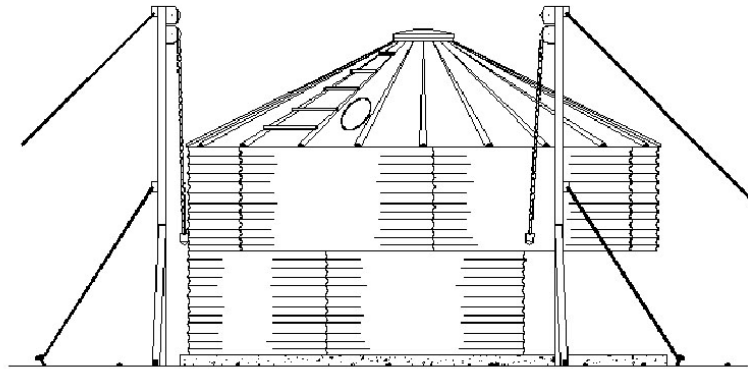

Figure 4
- 3- Attach the lifting jacks to the stiffeners (or to the holes lines of stiffeners in case they are not installed yet) and raise the silo high enough to let the assembly of the next body-sheets ring. (See figure 4)
The vertical joint of body-sheets must be staggered (as shown in the drawing) to allow all the stiffener holes to be aligned. (See figure 4)